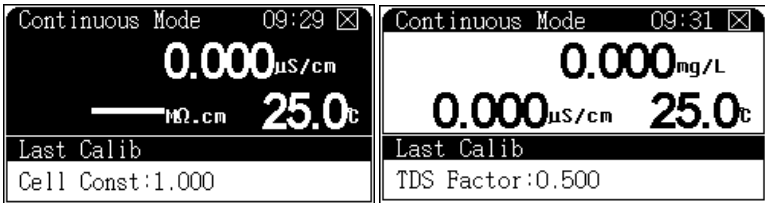

Figure 24 Viewing parameters while measuring
- 1 While performing a measurement, press [**Mode**]. The screen display highlights the measuring window as shown in Figure 24.